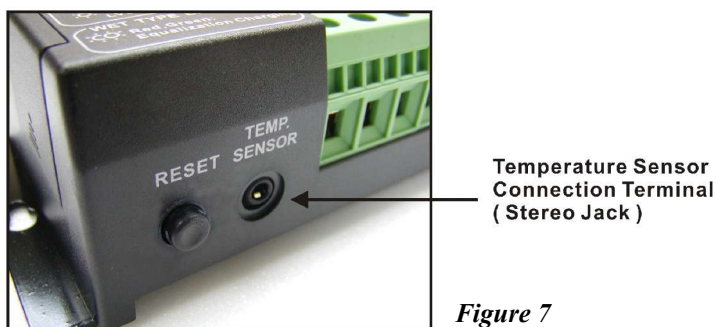

Figure 7
2. On the small control board, there is a sky blue color dip switch. Turn the dip switch 1 and 2 to ON position as shown in figure 7.